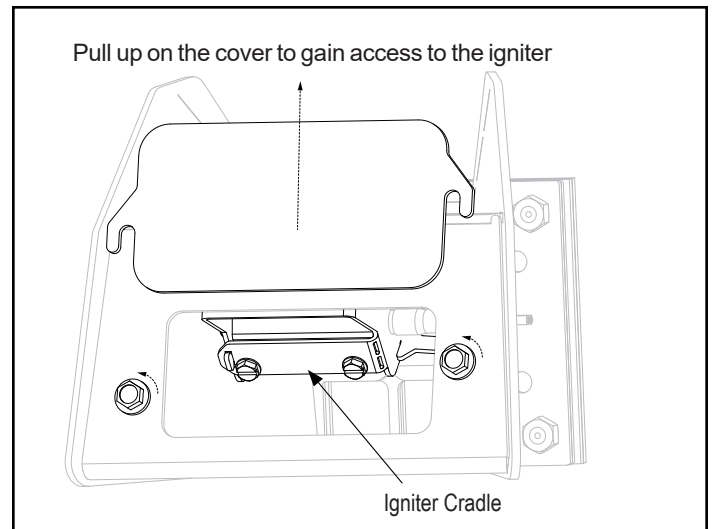

Figure 2.4 - Viewed from below through the ash pan opening.
- Loosen (2) 1/4-20 Flange Bolts and pull up on cover and remove to gain access to igniter element and cradle. Figure 2.4. **Note:** a wrench is built into the burnpot scraper for this purpose.
- Using the brush supplied, brush the igniter element free of any ash or debris. Figure 2.4.